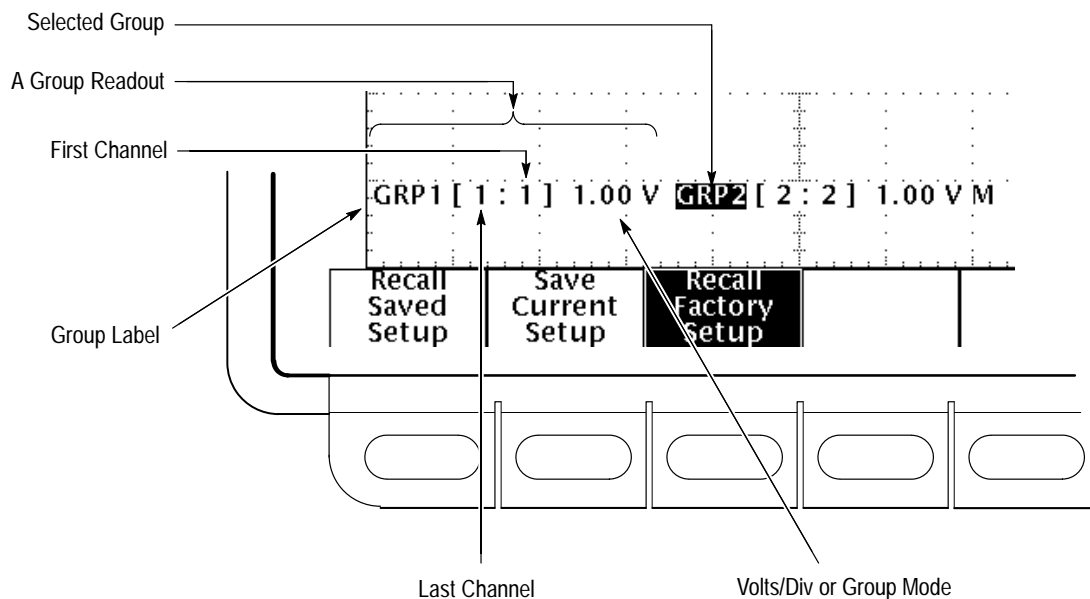

Figure 2–2: Vertical Readout Displaying Two Group Readouts
To determine the composition (first and last channel) of any group displayed, check the *Vertical Readout* at the bottom of the display. (See Figure 2–2.)
- displays the label of the selected group in reverse video. (See Figure 2–2.)